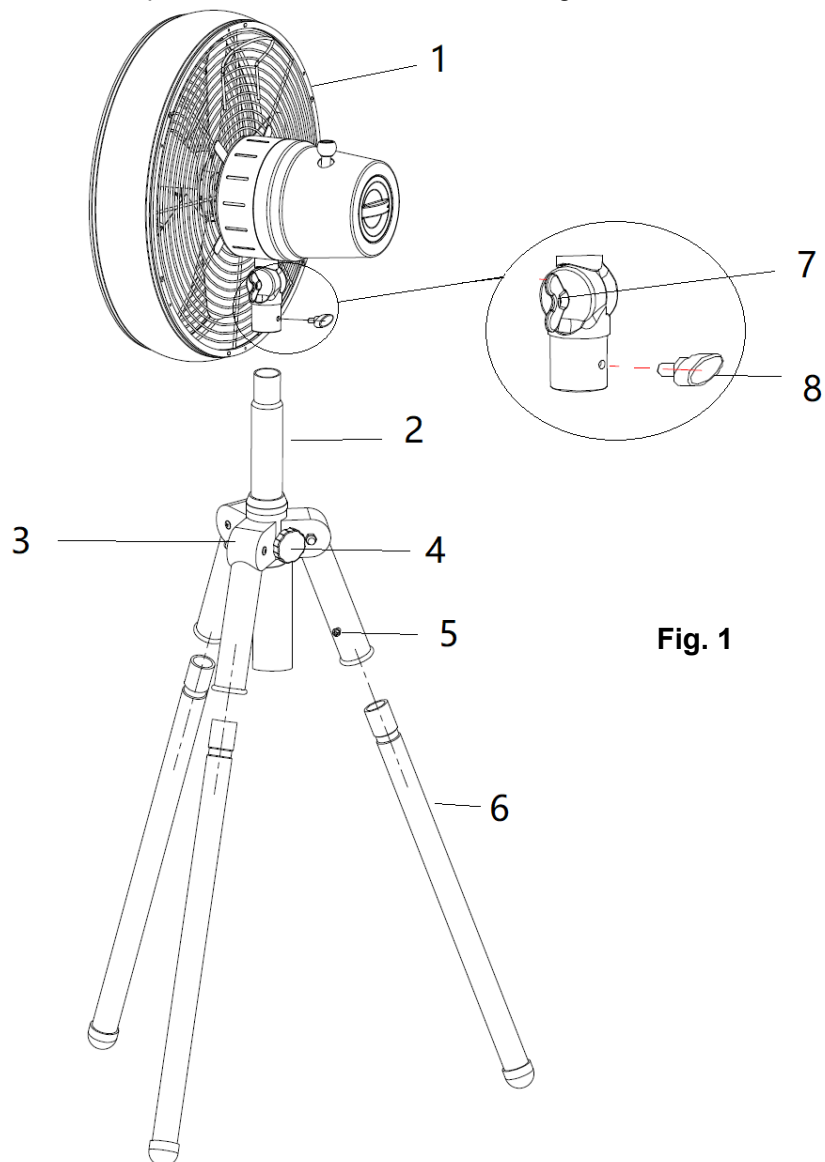

Fig. 1
1. Insert the wooden legs (6) into the holes of the post coupling (3) until you can not push the wooden legs (6) in any further, and then secure the wooden legs (6) by tightening the leg screws (5). Do not over tighten, it will damage the wooden legs (6). Fig. 1
2. Loosen the height adjustment knob (4) and pull out the height adjustment pipe (2) to the desired height. Tighten the height adjustment knob (4) firmly. Fig. 1
3. Place the fan head assembly (1) onto the top of the height adjustment pipe (2). Secure it by tightening the fixed knob (8). Fig. 1
4. Loosen the tilt adjustment knob (7) and adjust the fan head upwards or downwards to your desired tilt angle. Secure the fan head tilt angle by tightening the tilt adjustment knob (7) firmly. Fig. 1